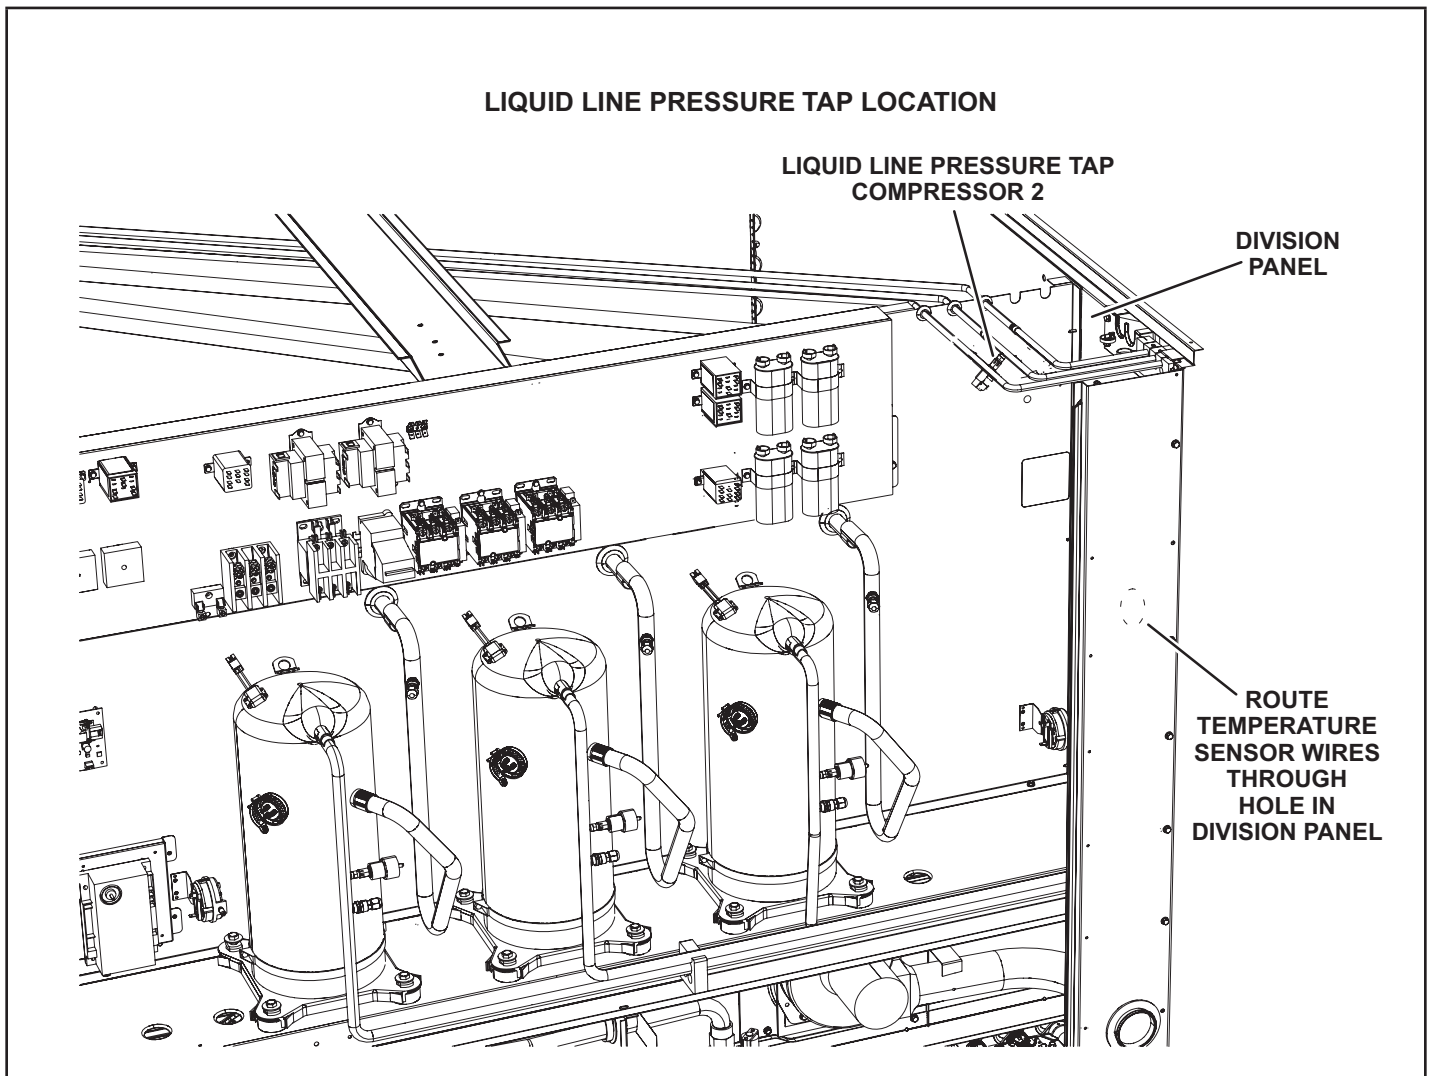

FIGURE 2
- 7 - Install the pressure transducer on compressor 2. liquid line pressure tap as shown in FIGURE 2.
- 1 - Route temperature switch wires through the division panel between the compressor and outdoor coil sections. See FIGURE 2.